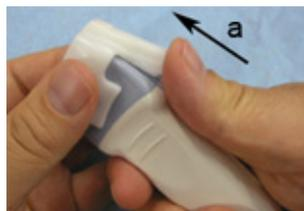

Figure 1-31. Remove the biopsy guide
1. Hold the biopsy guide and push out the needle clip attachment. See Figure 1-31.